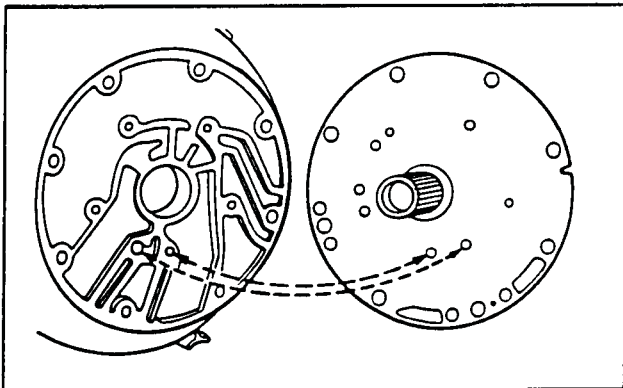

FIG. 48 Positioning Plate to Pump
13. Position the steel plate on the hydraulic pump in the exact position required (Fig. 48); then install the complete assembly to the converter housing.